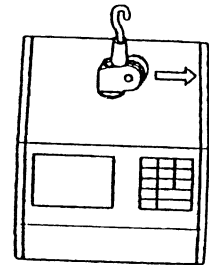

Figure 1
- (a) Turn the pulley to the right side of the unit. (See Fig.1)